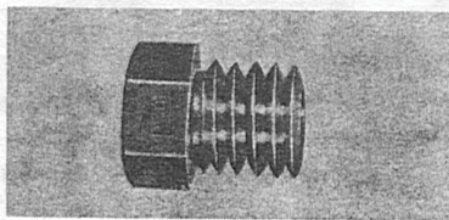

Fig. 37
1. The main jet can be replaced to change the fuel mixture at full throttle. (Figure 37)